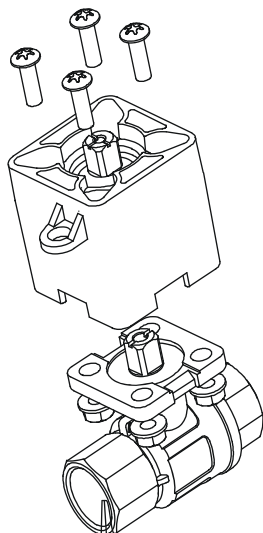

Figure 18: Installing the Barrier
3. Mount the thermal barrier onto the valve using the four included M5x16 mm machine screws and four M5 flange nuts. Tighten the screws to a recommended torque of 21 to 25 lb-in. (2.4 to 2.8 N·m) (Figure 18)